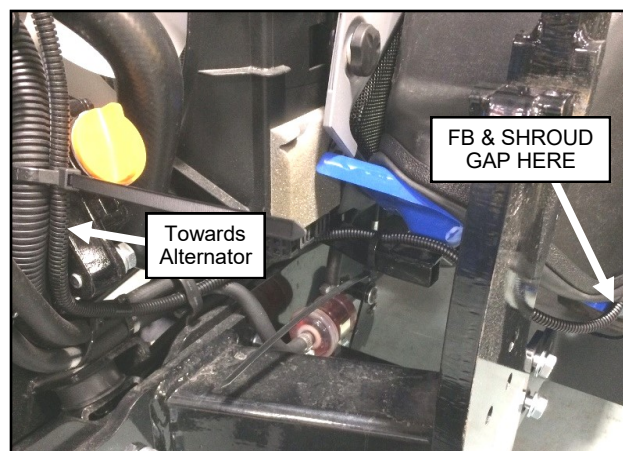

Fig. 10.4 (Power Harness to Hood)
- 10.4** Run the harness to the alternator as shown in Figures 10.4 and 10.5 making sure that wires will not be cut or pinched passing by the radiator or moving parts.